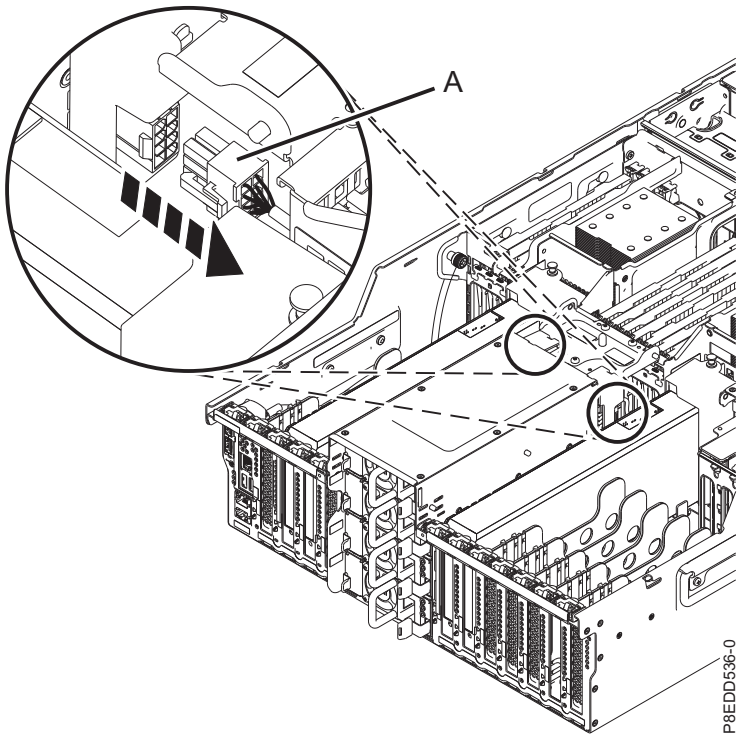

Figure 9. Disconnecting the GPU adapter power cable
- a. Disconnect the adapter power cable (A) from the power distribution board. See Figure 9 on page 12.